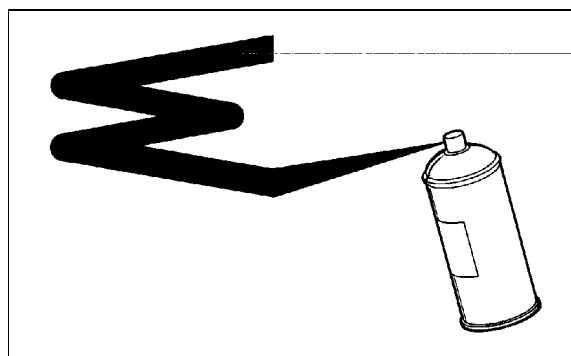

FIGURE 8: REPAIR PAINT
- Apply the recommended repair paint, either aerosol or air spray gun, to the damaged area. The can or spray gun should be kept at a distance of 6 to 10" (150 to 250 mm) from the surface to be covered, with continuous side-to-side motion, sweeping across the damaged area. To ensure a good blend with existing paint, the sweeping motion should begin and end to the side of the area to be covered. Larger areas to be covered will require the back-and-forth sweeping motion to be gradually moved up and/or down, as shown in figure 8.